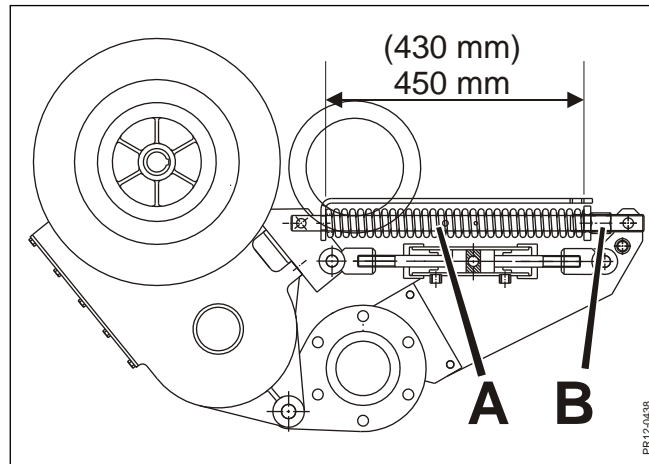

Fig. 4-35
**Fig. 4-35** The tensioning of the V-belt also takes place automatically. This is determined by the compression spring **A**. The tensioning of the V-belt may be altered by turning nut **B** on the spindle of the compression spring until the spring has the correct length: